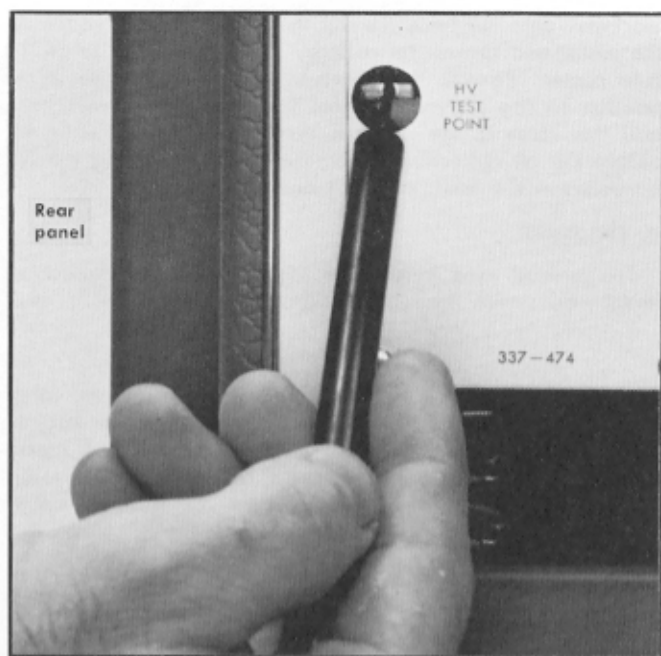
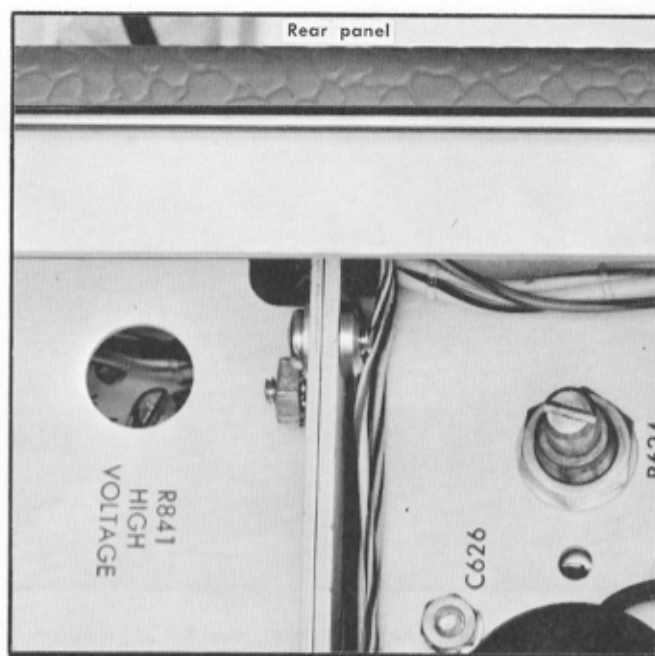

Fig. 5-9. High-voltage power supply test point, step 7.
Fig. 5-10. High-voltage power supply adjustment location, step 7.
a. Set the autotransformer output to 117 volts (234 volts). Connect the high-voltage 20,000 Ω/v meter between the —3300-volt HV TEST POINT (see Fig. 5-9) and ground. If the voltage is outside the $\pm 4\%$ limits of —3268 to —3432 volts, adjust HIGH VOLTAGE control, R841 (see Fig. 5-10).